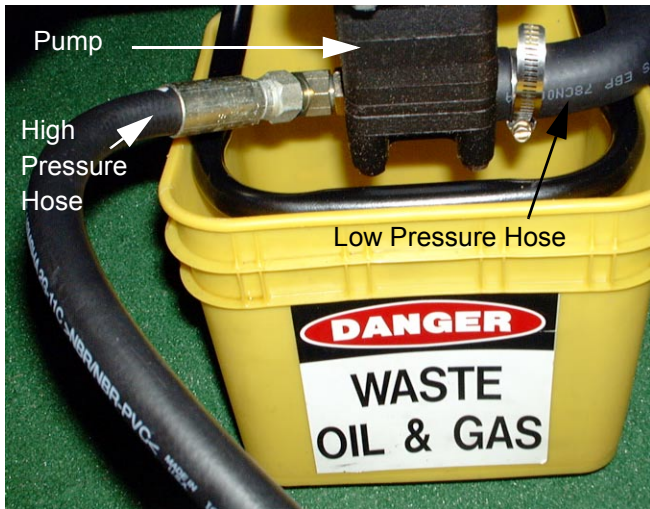

Figure 7
- Momentarily remove the suction hose from the bottom of the pump and lower it into an oil drain container, making certain there is sufficient flow from the reservoir. See Figure 7.